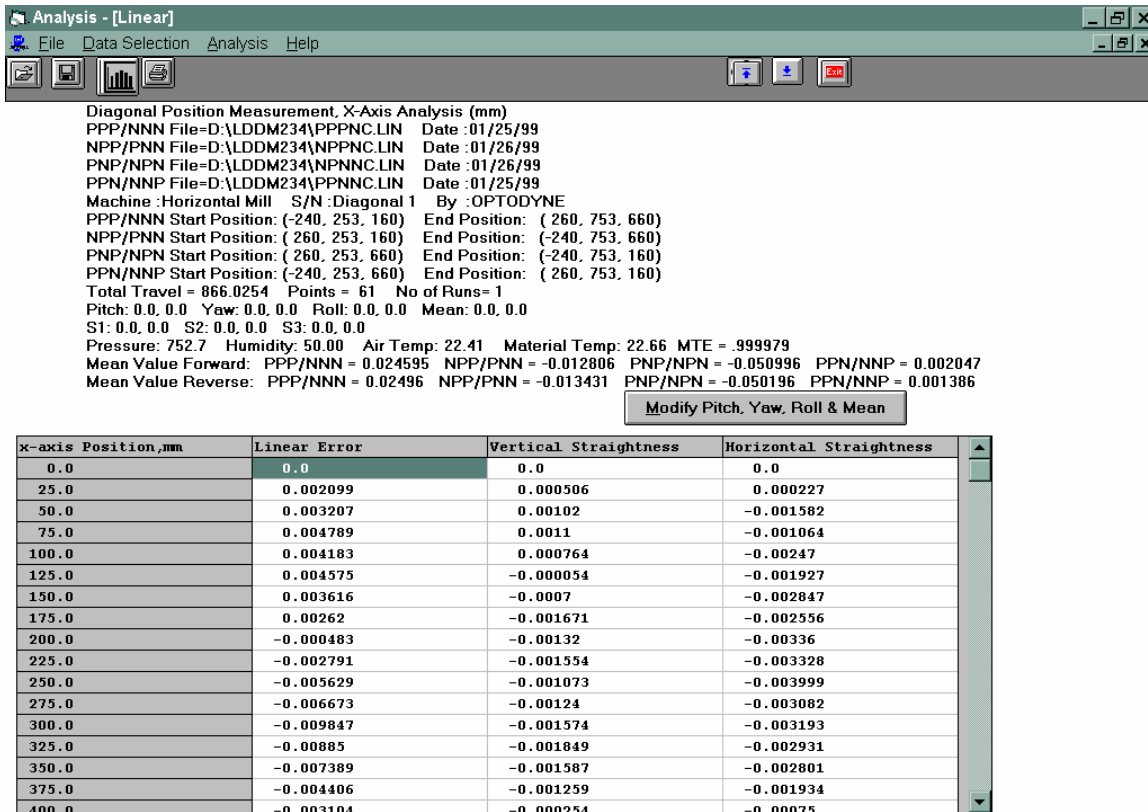

FIG. 9-9 LINEAR POSITION ERROR, VERTICAL STRAIGHTNESS AND HORIZONTAL STRAIGHTNESS IN THE X-AXIS
- 6) Click on **Analysis** then **X-axis**, the screen will show the linear position errors, vertical straightness and horizontal straightness in the X-axis as shown in FIG. 9-9.